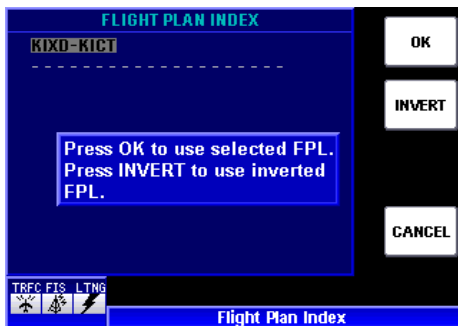

Figure 1-116
4. To start using the flight plan press the **USE** Softkey. Figure 1-116 will be displayed.